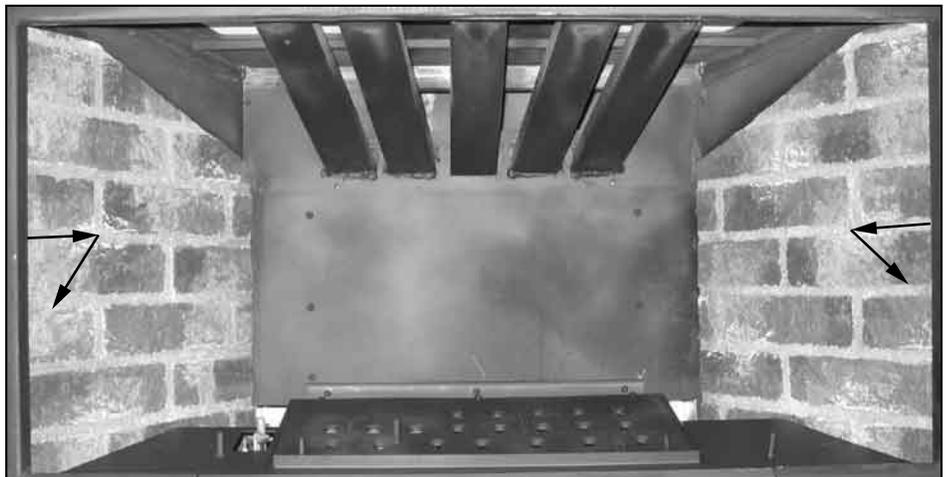

Figure 34: Brick Panel Installation.
7. Pull the panels out of the lips at the front of the firebox and carefully remove the panel from the unit (shown in Figure 34).